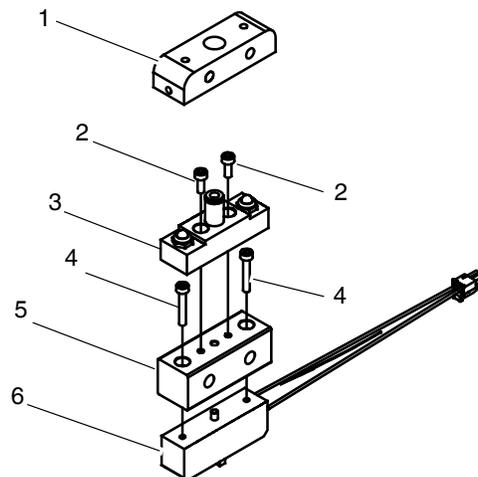

Figure 7-15 Piezo Actuator Disassembly
10. See Figure 7-15. Use a 2.5 mm hex wrench to sequentially loosen and remove the two screws (2) that hold the air flush heat exchanger (3) to the slide block (5).